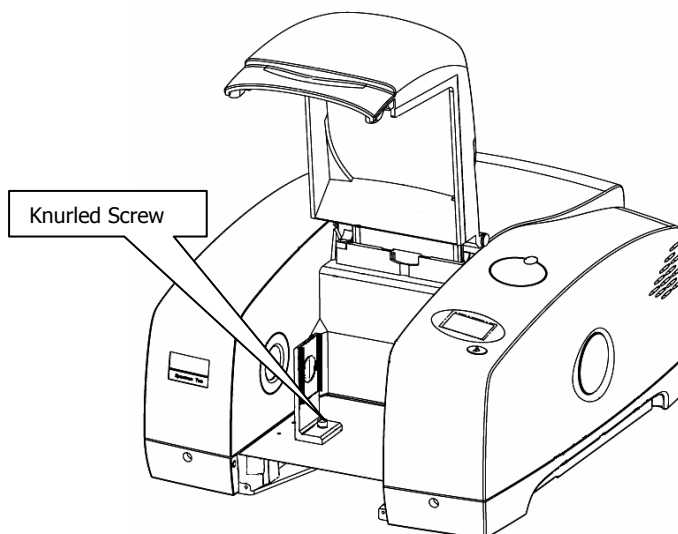

Figure 41 Knurled screw
2. You need the standard sample holder baseplate installed for this procedure, but remove the sample holder itself by unscrewing the knurled screw (Figure 41).